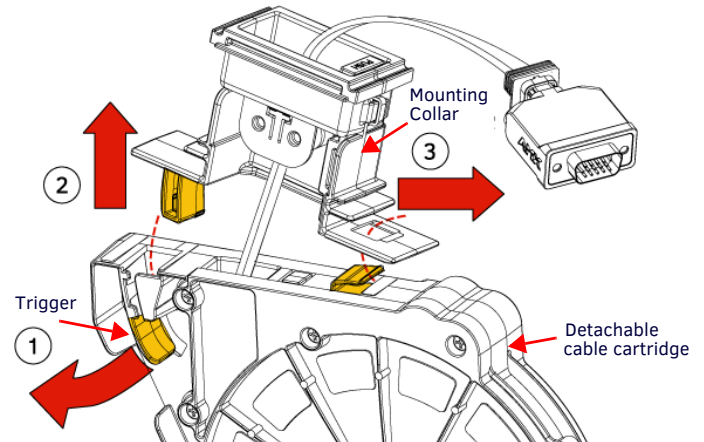

FIG. 4 HPX-AV102-RGB+A-R MOUNTING COLLAR REMOVAL
6. Pull the cable cartridge trigger (FIG. 4) to release the mounting collar tongue.
- Push the cable cartridge trigger up onto the mounting collar tongue until it latches (opposite of FIG. 4).
- Detach the cable cartridge from the mounting collar using the trigger and slide method described in FIG. 4.